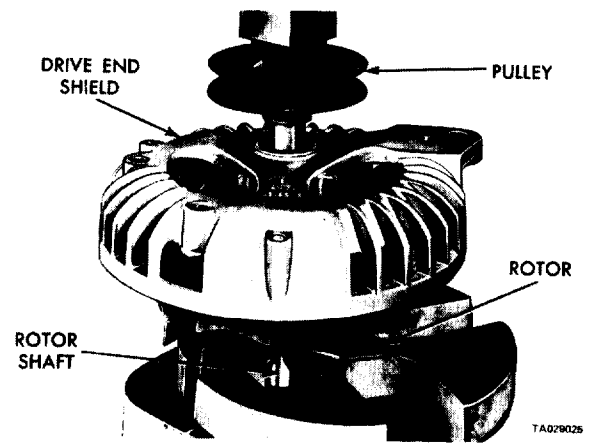

Figure 14-16. Installing Pulley.
e. Install the pulley on the rotor shaft. The shaft of the rotor must be supported in a manner so all pressing force is on the pulley hub and rotor shaft (figure 14-16). Press the pulley on the rotor shaft until the pulley contacts the inner cup of the drive and bearing.